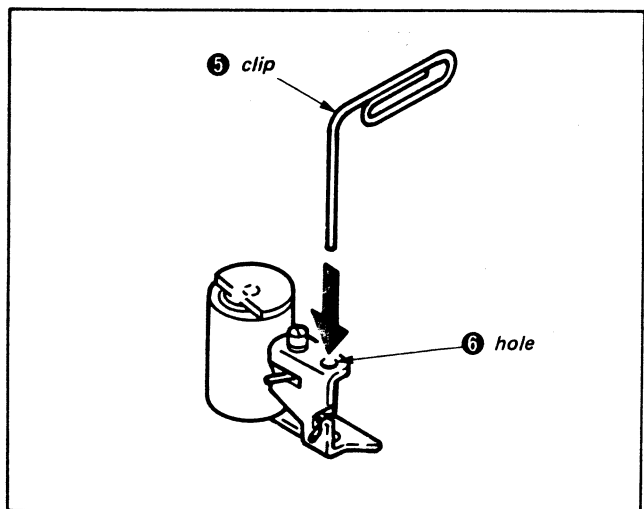

Fig. 3-16.
- 2) Insert the end of a paper clip ⑤ or other thin rod inside the pinch roller arm assembly hole ⑥. (See Fig. 3-16, 3-17)